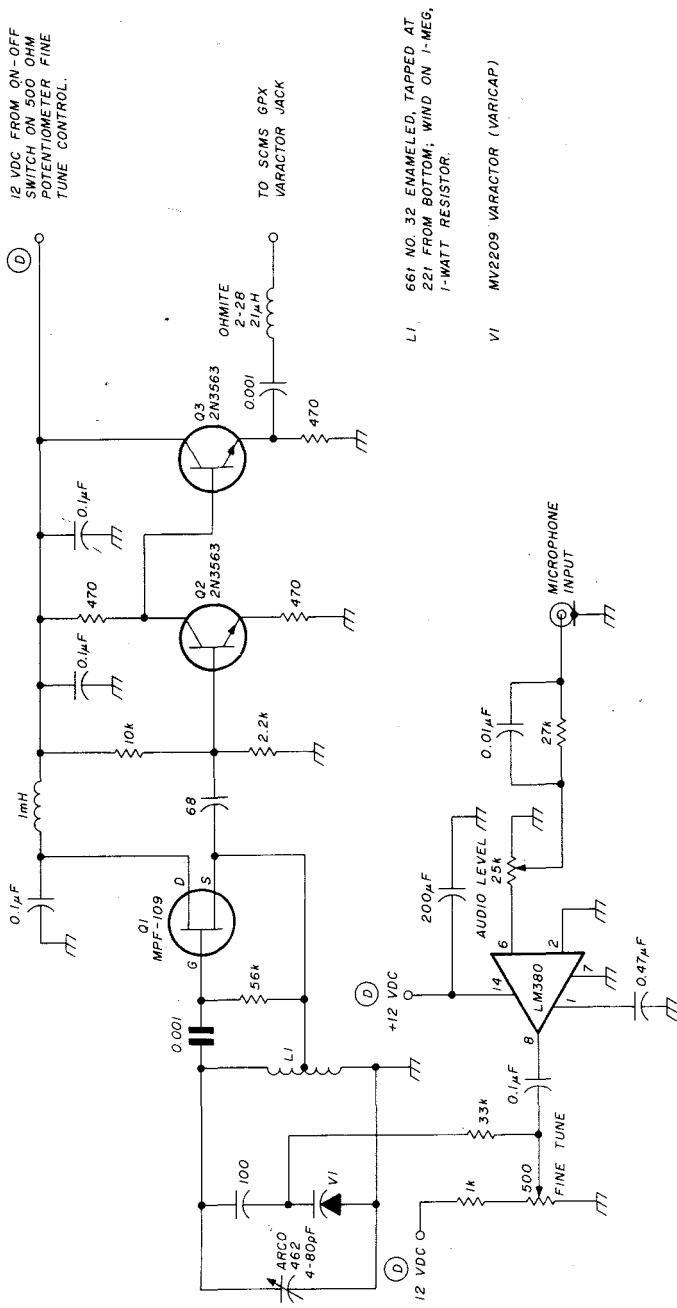

Figure 15-17. 4.5 MHz fm audio subcarrier system-schematic
At the receiving end, the detected audio signal is then de-emphasized (audio lows enhanced) to restore normal-sounding high-fidelity audio. Don't worry about putting your hi-fi voice subcarrier on the video signal now, and let the 27K ohm resistor and 0.01- μ F capacitor in the LM380 mike input line provide the pre-emphasis audio shaping. This network will make you sound natural when using a good-quality, high-impedance microphone. *Figure 15-17* is a schematic of the 4.5-MHz fm audio subcarrier system that will complement your video signal.
Q1 in *Figure 15-17* is a unique 4.5-MHz oscillator in that the ARCO 402 coarse tuning trimmer capacitor sets the fm subcarrier
1. Referring to *Figure 15-17*, the schematic of the 4.5-MHz fm audio subcarrier system, make sure that the ARCO 462 trimmer capacitor is adjusted for exactly 4.5-MHz oscillator output with the 500-ohm fine tune pot at midrange. Use a communications receiver or digital frequency counter for calibration.